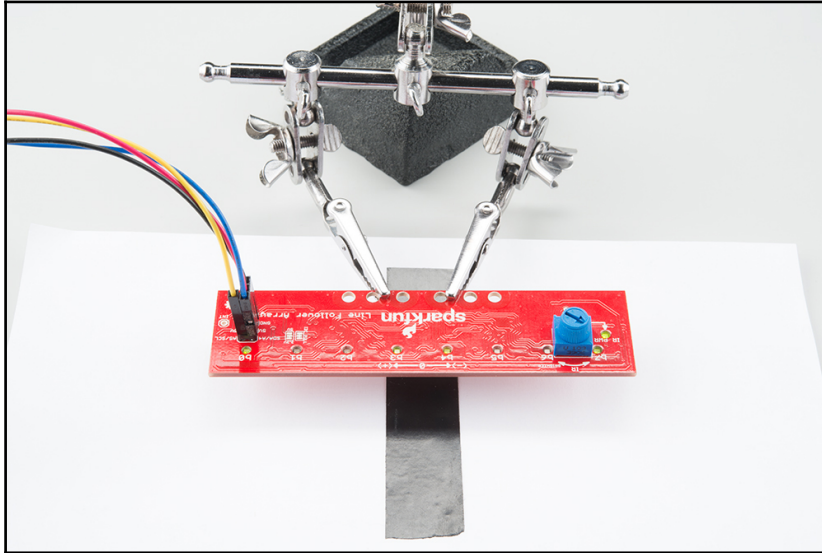

Figure 5.11: A sensor placed on a dark line. Only b3 and b4 IR sensors can detect the line. Image courtesy of SparkFun Electronics (<https://www.sparkfun.com>)
9. Inside the `loop()` function, read the sensor position on the dark line (Figure 5.11) with the following command: